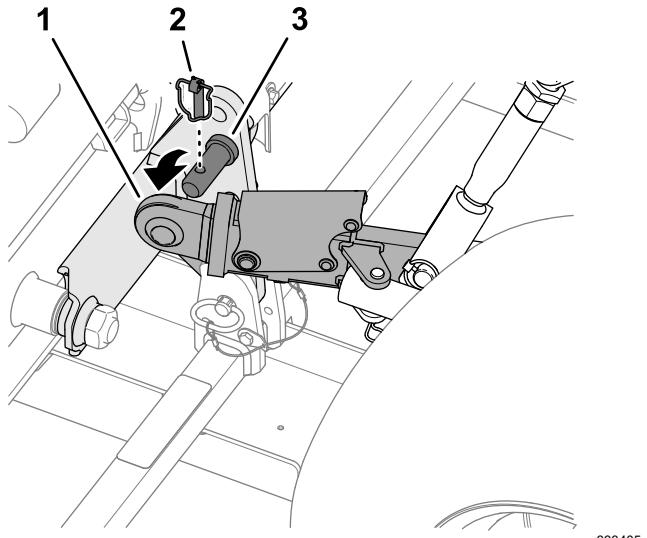

Figure 47
- Remove the 2 lynch pins and slide the lower link arms off the hitch pins of the machine (Figure 47).